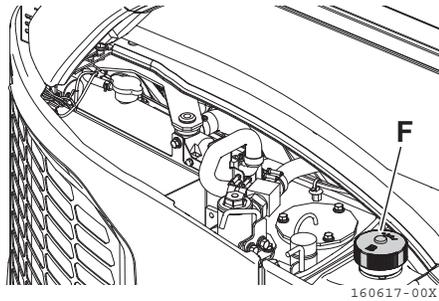
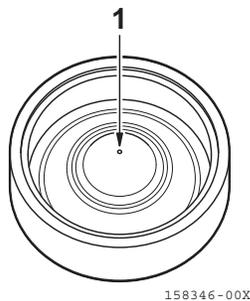

Fig. 3-9
Fig. 3-10
3. Open the front cover (right) and then supply port cap (**Fig. 3-9, F**), and supply fuel to the fuel supply port.
4. After supplying fuel, fully close the supply port cap (**Fig. 3-9, F**) and close the front cover (right).
*Clogging the breather (**Fig. 3-10, 1**) of fuel supply port cap (**Fig. 3-9, F**) may cause the pressure in the fuel tank to decrease, resulting in stoppage of fuel supply to the engine. If the fuel supply port cap is contaminated, clean the cap.*